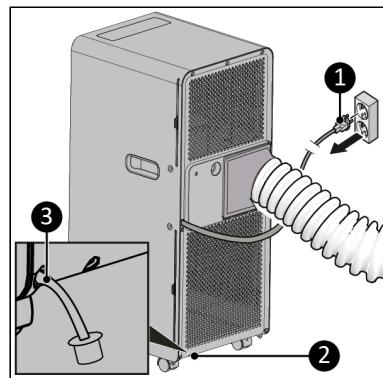

Figure 33.
1. Make sure the device is switched off and the plug is removed from the power outlet (Figure 33, pos. 1).
2. Remove the cap (Figure 33, pos. 3) from the water drainage point (Figure 33, pos. 2).